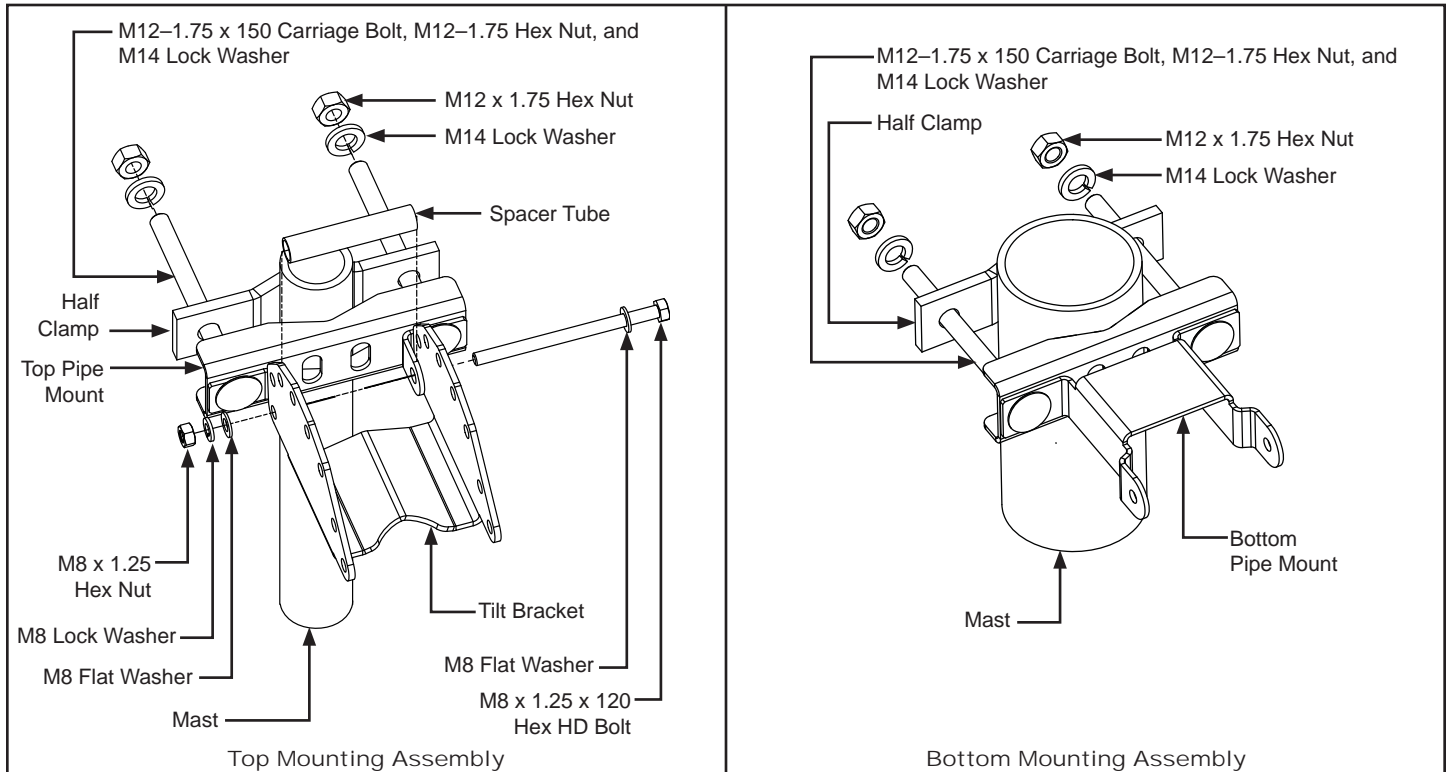

Figure 1. Verify all Hardware Parts are Included in Shipment.
- Examine antenna and hardware to ensure that all parts are enclosed and that there is no physical damage. See Figure 1 for a description of parts included.
- Bring the antenna into position on the tower and secure it to the tower using the hardware provided (See Figure 1 for hardware details).